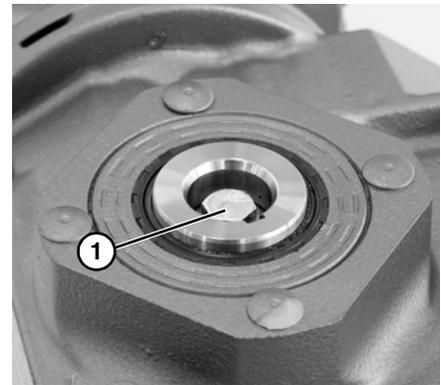

Figure 27
6. Remove shaft mounting bolt (**Figure 27, item 1**) and remove shaft.